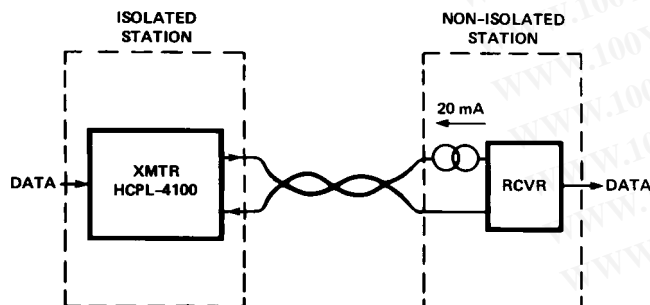

Figure 12. Simplex Point to Point Current Loop System Configuration.
2. Derate linearly above a free-air temperature of 70°C at a rate of 2.3 mW/°C. A significant amount of power may be dissipated in the HCPL-4100 output circuit during the transition from the SPACE state to the MARK state when driving a data line or capacitive load ( $C_{OUT}$ ). The average power dissipation during the transition can be estimated from the following equation which assumes a linear discharge of a capacitive load:  $P = I_{SC} (V_{SO} + V_{MO})/2$ , where  $V_{SO}$  is the output voltage in the SPACE state. The duration of this transition can be estimated as  $t = C_{OUT} (V_{SO} - V_{MO})/I_{SC}$ . For typical applications driving twisted pair data lines with NRZ data as shown in Figure 12, the transition time will be less than 10% of one bit time.
The simplex configuration, whether point to point or multidrop, gives unidirectional data flow from transmitter to transmitter(s). This is the simplest configuration for use in long line length (two wire), moderate data rate, and low current source compliance level applications. A block diagram of simplex point to point arrangement is given in Figure 12 for the HCPL-4100 transmitter optocoupler.